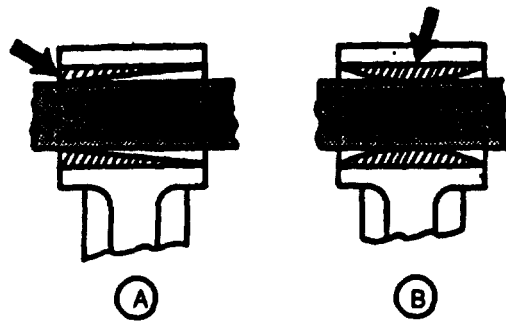

FIGURE 3-135. Checking Piston Pin Bushing
- (2) Using outside micrometer, measure piston pin OD. Replace if not within 1.624 to 1.625 inches (41.27 to 41.28 mm).
- (3) Inspect piston pin bushing for damage or excessive wear. Lubrication hole must be open.
- (4) Compare pin bushing ID with pin OD for specified oil clearance.
- (5) Insert pin from either side of rod bushing. If pin is free on one end, but tight on other, bore could be tapered (A, FIGURE 3-135). If pin enters freely from both sides, but is tight in center, bore is bell mouthed (B). Pin-to-bushing clearance should be 0.0008 to 0.0024 inch (0.02 to 0.06 mm), with a maximum of 0.004 inch (0.10 mm).